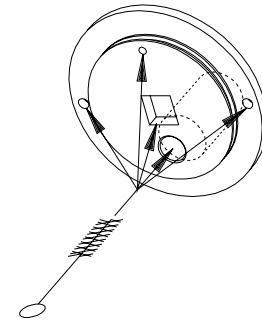

Figure 6-5
- a. The dispense head piston opening, breaker bar cavity, air bleed hole, dispense outlet valve opening, and the head mounting holes, as shown in figure 6-5.